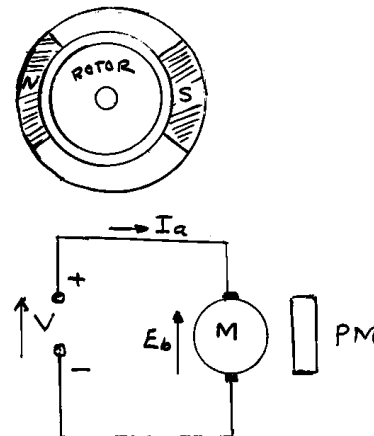

Fig.2
- The basic operating equations for PMDC machine are the same as for DC motors or generators. For example, a motor circuit is as shown in Fig. 2. and field winding connections are no longer required.